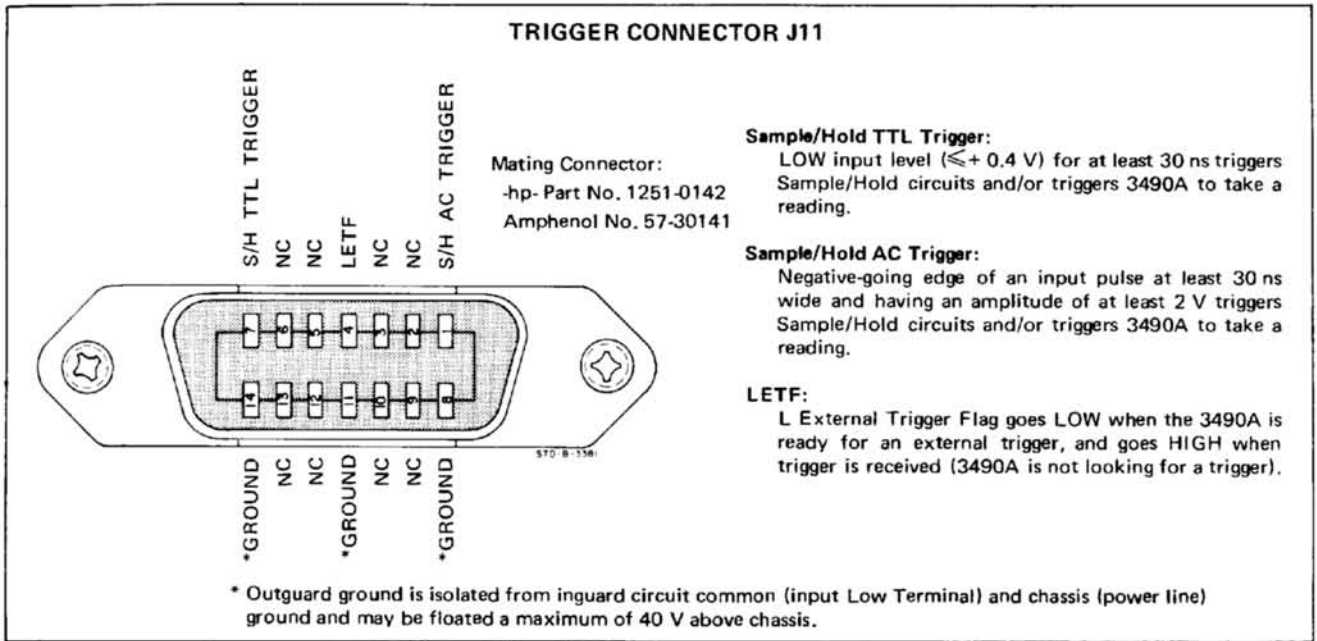

Figure 2-10. Trigger Connections, HP-IB Option 030.
2-41. Figure 2-10 shows the rear panel Trigger connector, J11, and lists the External Trigger signals. The mating connector for J11 is -hp- Part No. 1251-0142 (Amphenol 57-30141).
2-45. Sample/Hold with HP-IB Option 030. Figure 2-10 shows the Trigger Connector, J11, and describes the trigger signals. The mating connector is -hp- Part No. 1251-0142 (Amphenol 57-30141).
19. Trigger Input connector J11 (Option 030 or 045). See Figures 2-10 and 2-11.